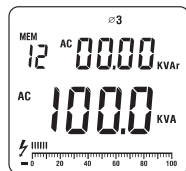

Figure 19
- Press **SELECT** again to choose the third phase Ø3, see figure 19.